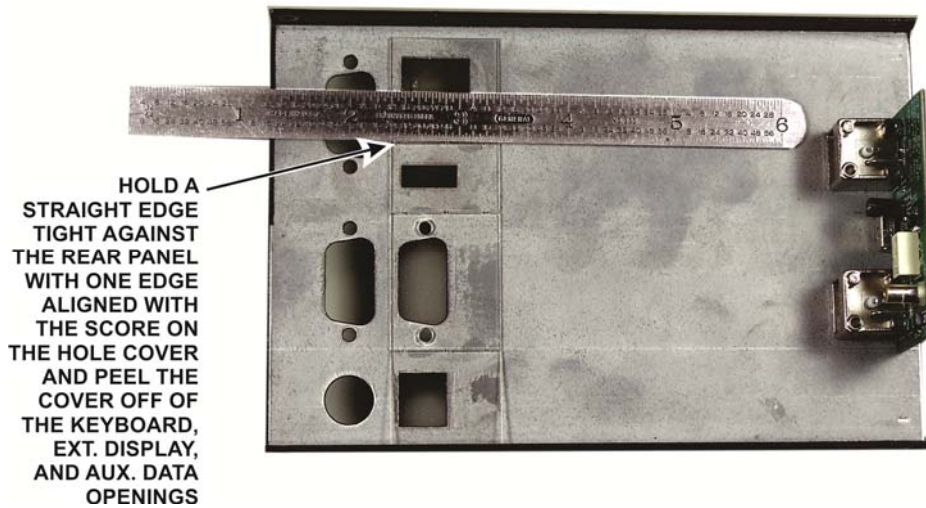

Figure 4. Removing Hole Covers.
□ Remove the plastic covering from the AUX. DATA, EXT. DISPLAY and KEYBOARD openings on the rear cover, but leave the covering over the SENSOR opening (see Figure 4). The plastic cover will snap apart at the score mark as you bend it away from the panel.